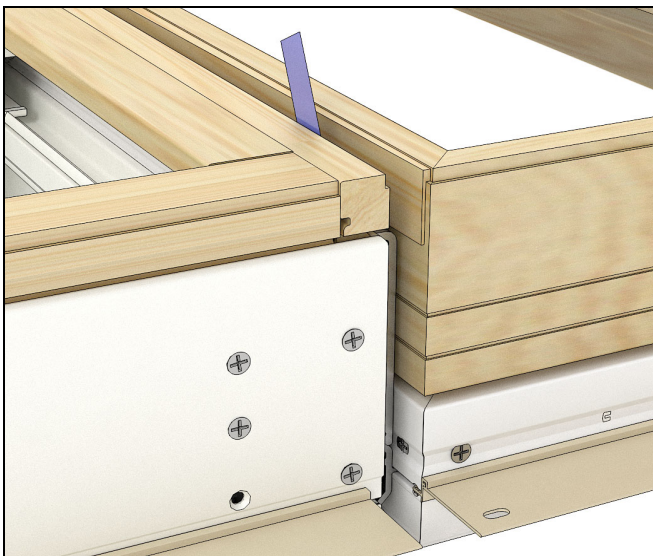

Figure 10
10. Ensure all components are aligned and then remove tape backing from MRF. See Figure 10.